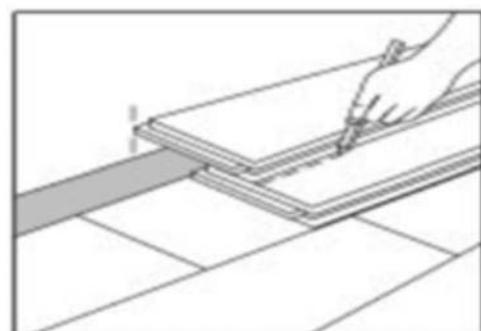

Figure: 6
2. Place the row of planks to be fitted on top of the last row of installed planks. Use a piece of the plank as a scribe to trace with a pencil the contour of the wall. (See figure 6).